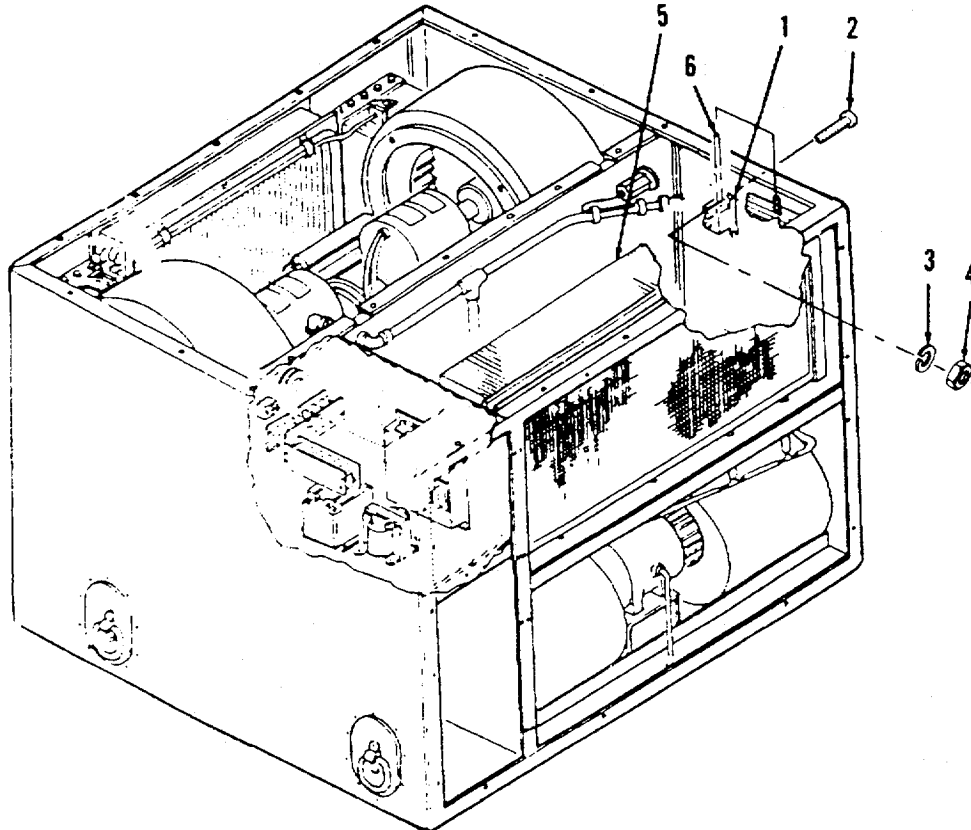

Figure 3-33. Coil Frost Switch.
- a. **Removal.** (Refer to Figure 3-33).